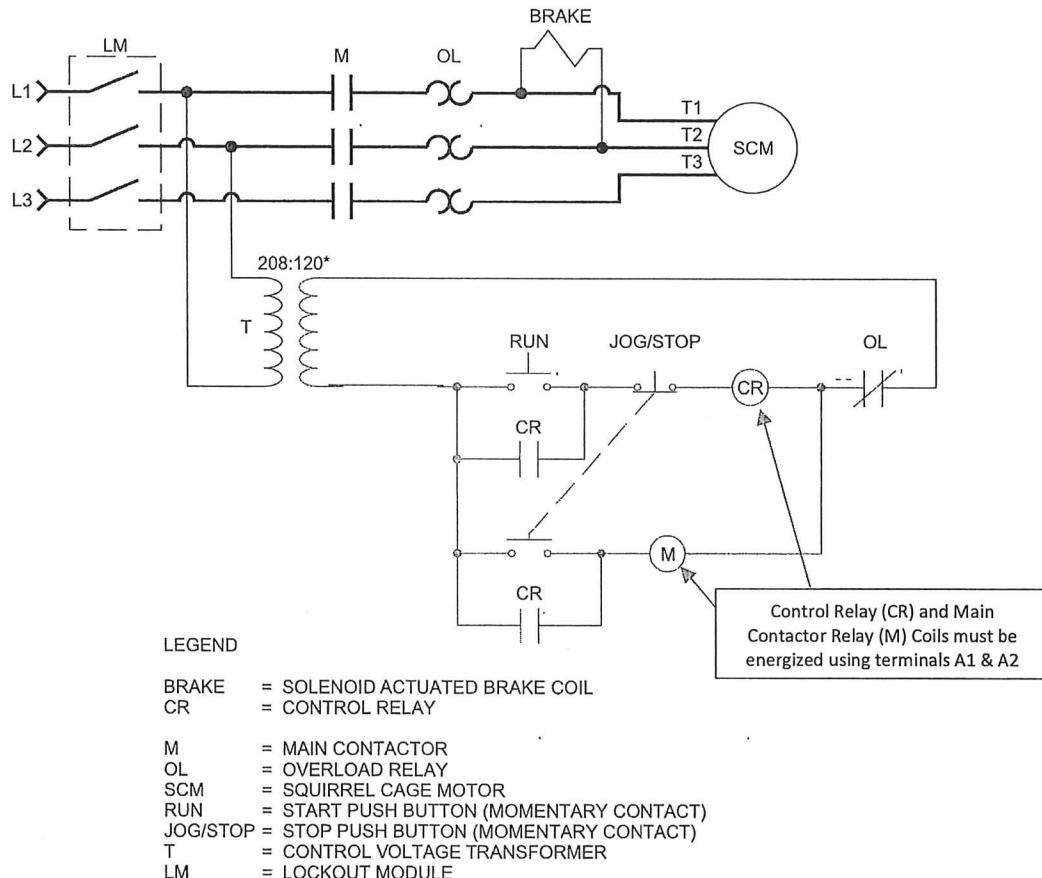

Figure 4 - Jogging Circuit with Control Relay
Jog/Run circuits (Figure 4) shows a jog/run circuit using a control relay. When the RUN push button is pressed on, the control relay (CR) is energized and holding circuits are formed for both the control relay (CR) and the main contactor (M). The motor then starts and keeps running until the JOG/STOP push button is pushed, causing the control relay (CR) to de-energize. Pressing the JOG/STOP push button when the system is at rest causes the motor to start and run normally until the JOG/STOP push button is released. The friction brake applies when the motor stops.
1. UNDERSTAND the difference between a PUSHBUTTON and a CONTACT symbol in the wiring diagram. Likewise, understand the difference between a NORMALLY OPEN (NO) and a NORMALLY CLOSED (NC) pushbutton and contact.
2. Set up a typical JOGGING CIRCUIT including the FRICTION BRAKE and a CONTROL RELAY as shown in Figure 4.